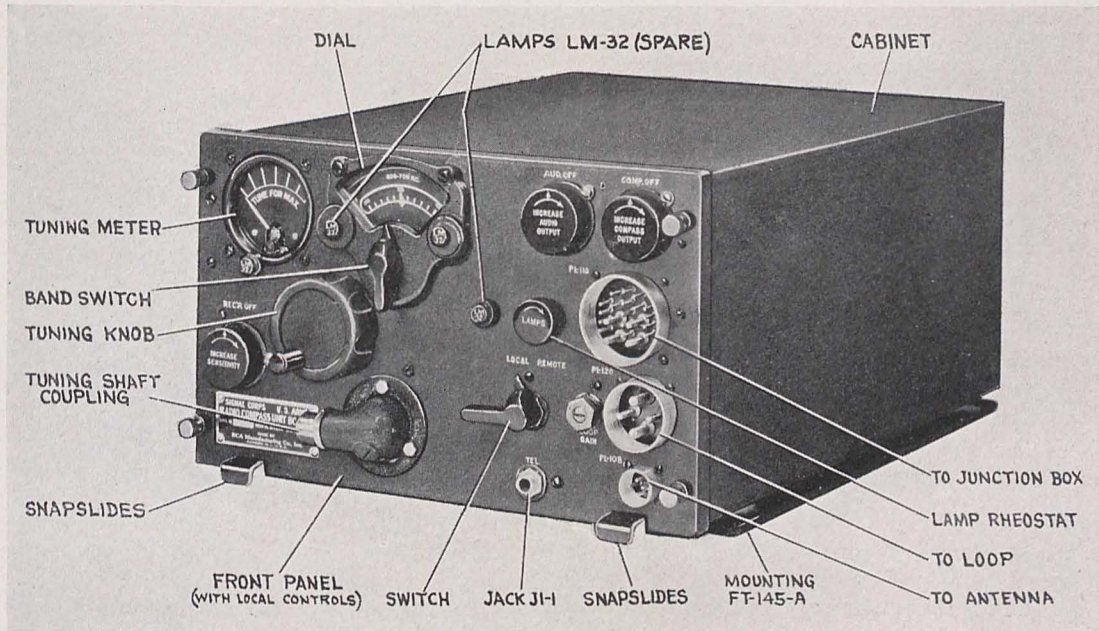

Figure 2—Radio Compass Unit BC-310-A, Assembly View
Radio Compass Unit BC-310-A consists of a cabinet and chassis and includes Mounting FT-145-A, Dynamotor DM-18, 4 Lamps LM-32 (2 in use, 2 mounted spares), Alignment Tool TL-138-A and a No. 8 set screw wrench. This unit requires but does not include 1 set of vacuum tubes. Radio Compass Unit BC-310-A contains the compass circuit elements, the superheterodyne receiver circuit elements, the local controls and the high voltage power supply. (See Figure 2.)
d. **Local Panel Items and Controls.**—This equipment is completely controlled either locally or remotely; the Local-Remote switch at the local position determines which position has control. The remote controls are discussed under paragraph 2-2. All local controls and installation adjustments are contained on the panel mounted on the front of the radio compass unit chassis. The following items appear on the front panel. (See Figures 2 and 5.)
- (1) **Tuning Control.**—The local tuning knob drives the tuning condenser through a train of gears. The remote tuning knob drives the tuning condenser through Tuning Shaft MC-124. The tuning shaft coupling to the chassis is a swivel joint capable of being rotated and locked in any angle in the plane of the panel. The gear ratio between the tuning knob and tuning condenser is approximately 60 to 1. The gear ratio between the flexible Tuning Shaft MC-124 and the tuning condenser is 120 to 1. The local and remote controls are interconnected by rotating both local dial and remote dials to points on the dials marked ALIGN and then connecting Tuning Shaft MC-124.
- (2) **Dial.**—A disc type dial is used and is calibrated directly in kilocycles for each of the three bands. A mark with the word ALIGN is placed on the dial for aligning local and remote dials when interconnecting them with Tuning Shaft MC-124. Only the frequency band on which the equipment is operating is visible. The dial is illuminated by one Lamp LM-32.
- (3) **Tuning Meter I-69.**—A tuning meter indicates when the Radio Compass Unit BC-310-A is tuned to the center of the pass band. The meter is provided with Lamp LM-32 and rim type illumination. Luminous paint is applied to the pointer and scale divisions as an aid in night flying.
- (4) **Band Switch.**—The frequency band switch is a lever operated switch capable of electrically selecting any one of the three bands. The frequency range on which the receiver is operating is marked on the dial mask and only that particular frequency range marking is visible.
- (5) **Local-Remote Switch.**—When this switch is in the Local position, all controls function when operated at the Local position, but the remote headset and remote Compass Indicator I-65-A remain connected and are subject only to their respective level controls. When this switch is in the Remote position, all controls function when operated at the Remote position, but the local headset and local Compass Indicator I-65-A remain connected and are subject only to their respective level controls. In both the Local and Remote positions of the switch, the interphone connection located at Junction Box TM-180-A or connector panel is available for either compass or receiver operation, when opened when a plug is inserted in the headset jack at either the local or remote positions.
- (6) **Increase Sensitivity and Rec'r.-Off Switch.**—This control is provided to control the overall gain of the receiver and has the effect of setting the threshold value below which the audio output of the receiver is negligible. A switch is ganged with this control to turn the receiver off when the knob is rotated completely counterclockwise to the Rec'r.-